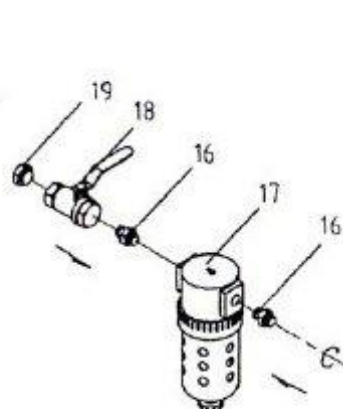

Figure 2
2. Refer to Figure 2 for the assembly of the air trap (17). There are two connectors (16) on either side of the filter. The air supply valve (18) should be mounted to one connector (16) and the other end to the female-male connector (19). When the sandblaster is ready to use, the air line from the compressor should be connected to the female-male connector (19).